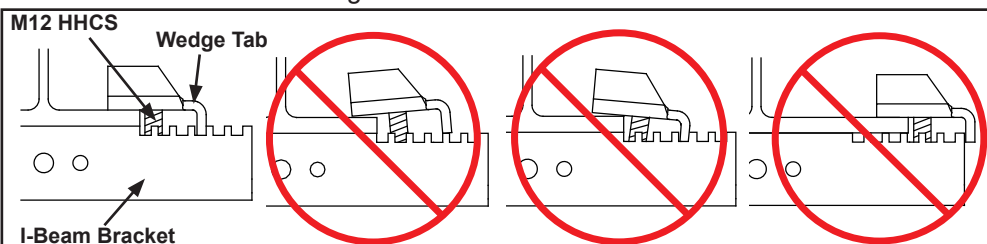

Figure 3-15A
- Step 5. Slide wedge tabs in toward web of beam until two (2) M12 x 100 mm HHCS contact I-Beam flange sides. See Figure 3-15A below.